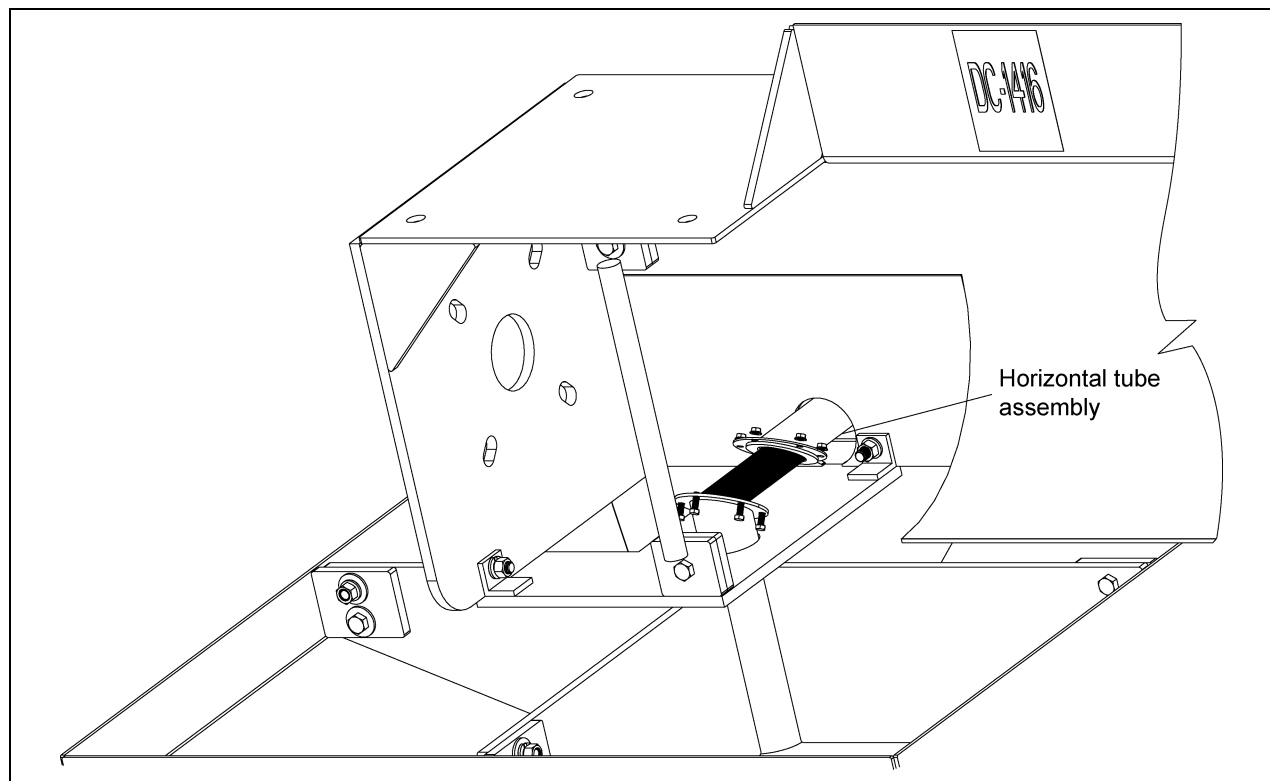

Figure 4G
24. Feed the nine (9) stranded wires from the slip ring through the horizontal tube assembly. Take care to ensure that none of the wires becomes stripped or damaged in this process.
25. Feed the horizontal tube assembly and nine (9) stranded wires from the slip ring through the hole in the head section back shield.
26. Attach the horizontal pivot tube and vertical pivot tube together using five (5) 1/4" x 1" hex bolts and serrated flange nuts. It is critical that the two (2) flanges are seated and create a proper seal so that contaminants do not enter the space around the stranded wires. (See Figure 4G on Page 19.)